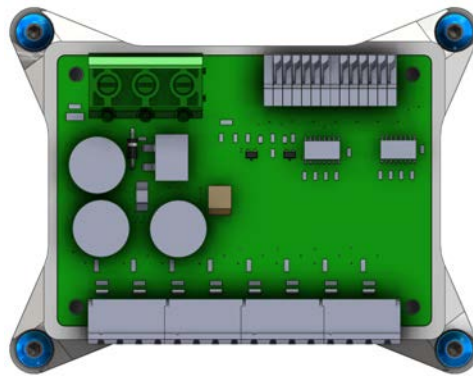
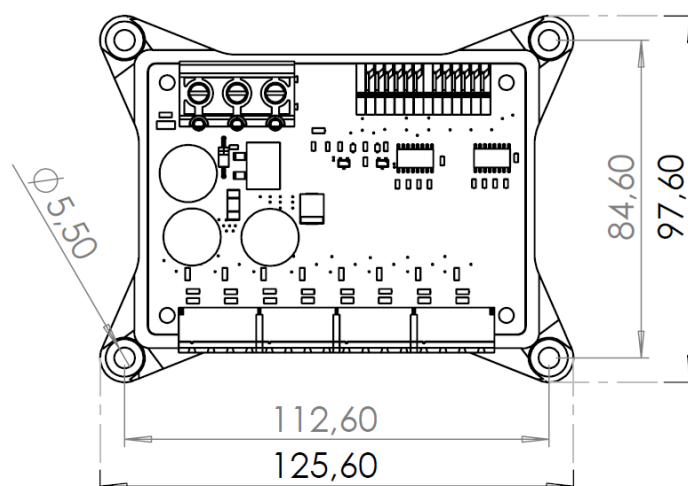

Figure5
Figure.6
- Fixing must be done using 4 M5 screws through the mounting holes marked in blue at the four corners of the housing, as shown in **Figure 6** and **Figure 5**, whose dimensions and positions are specified.